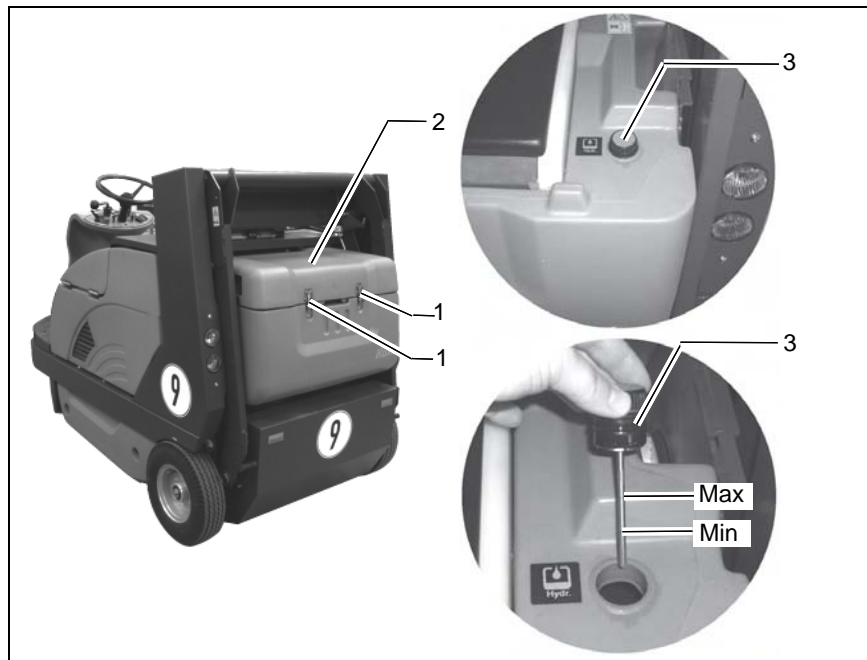

Fig.22
- Open quick-release locks (Fig. 22/1) and remove cover (Fig. 22/2)
- Clean the area of the dipstick (Fig. 22/3).
- Pull dipstick (Fig. 22/3).
- Pull dipstick (Fig. 22/3) and check the hydraulic fluid level, refill if required.
- Unscrew cap with dipstick (Fig. 22/2) and check hydraulic fluid level, siehe Abschnitt 5.11.1.
- The hydraulic fluid level must not fall below the minimum. It should read between the minimum and the maximum (Fig. 22/).